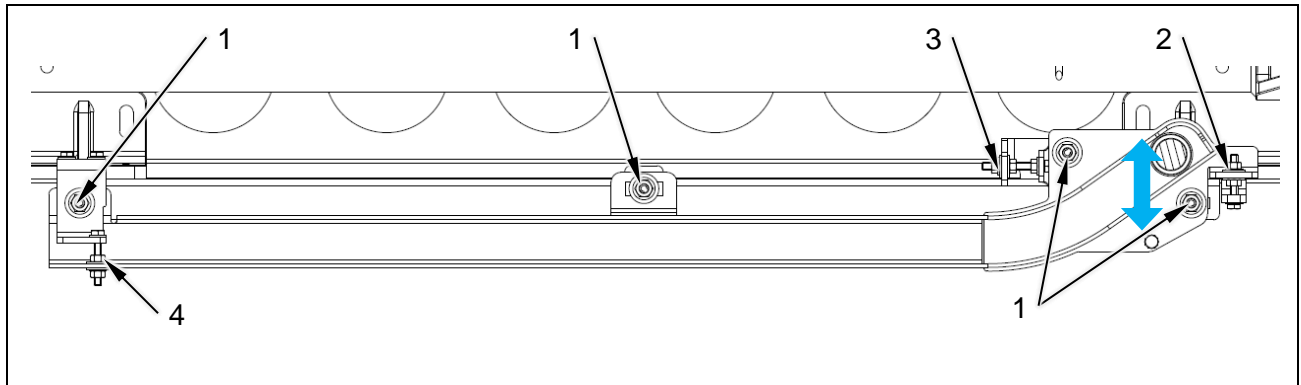

Figure 18 Door flushness adjustment (front side)
- a) Slightly loosen the 3 fixing M8 nuts (*item 1, Figure 18*) of top guiding rail
- b) Slightly loosened the adjusting nut (*item 2~4, Figure 18*)
- c) Adjust the nut (*item 2, Figure 18*) to move the guiding rail, until the door leaf flushness satisfy the requirement
- a) Slightly loosen the 4 fixing M8 nuts (item 1, Figure 18) of top guiding rail
- b) Slightly loosened the adjusting nuts (item 2~4, Figure 18)
- c) Adjust the nut (item 4, Figure 18) to move the guiding rail, until the plug-out stroke satisfy the requirement